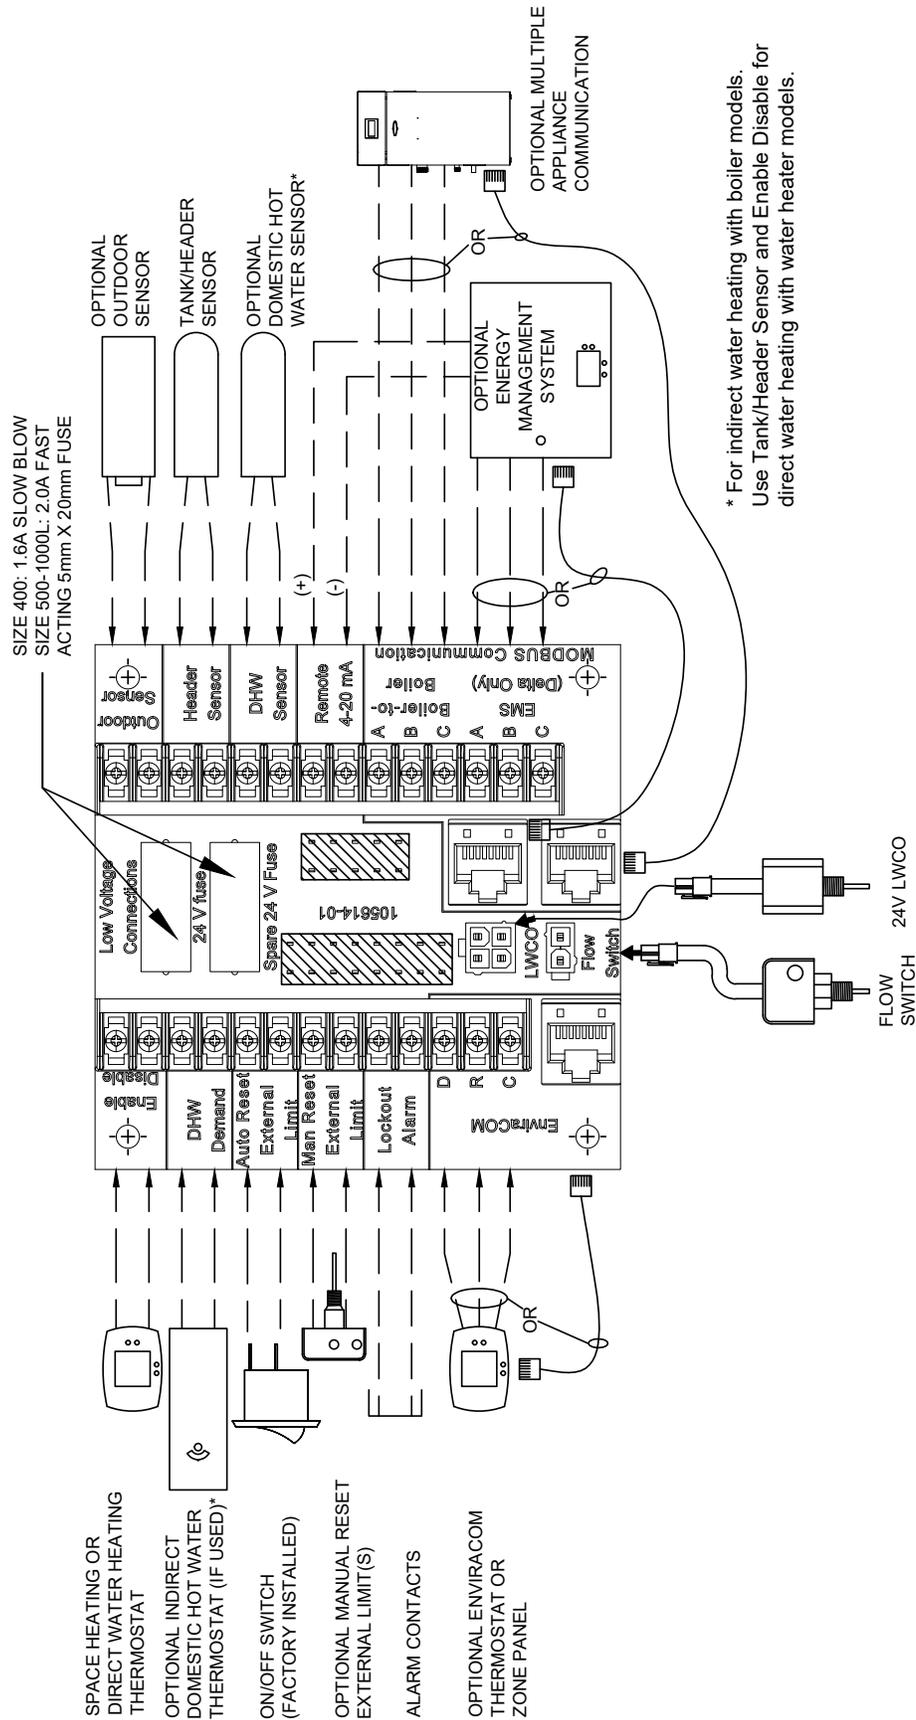

Figure 25: Low Voltage Connections PCB
- a. Low voltage PCB has connections for the tank sensor, external limits, Alarm, 4-20 mA, etc. One 24V fuse and spare are provided. See Figure 25.